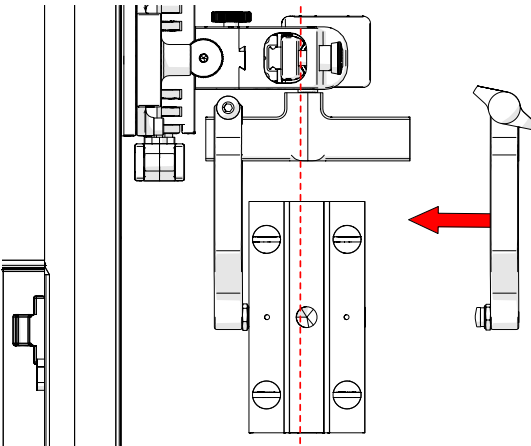

Fig. 175 - Align probe with yoke
6. Align the middle of the wedge with the centre of the yoke (Fig. 175).
7. Tighten both the probe holder adjustment knob and the arm clamp screw (Fig. 175) while ensuring the wedge remains centred with the yoke.